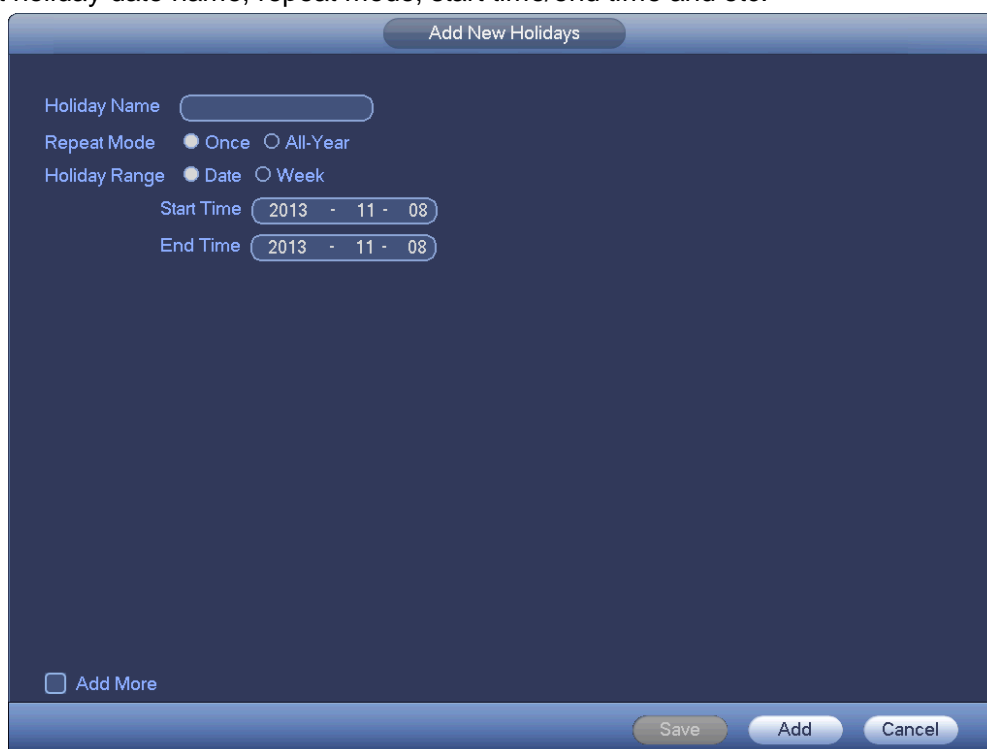

Figure 4-59
- b) Click Add new holiday button, you can see an interface shown as in Figure 4-59. Here you can set holiday date name, repeat mode, start time/end time and etc.